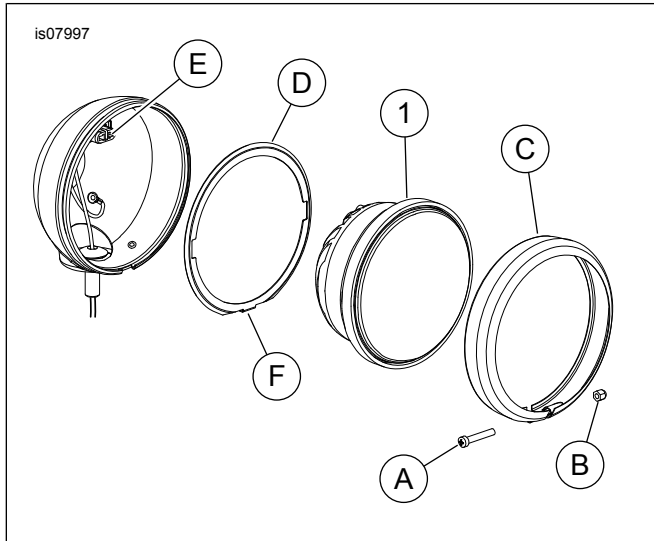

Figure 3. Service Parts: LED Auxiliary Lamps
See Figure 3 and Table 1.
2. See Figure 3. Remove auxiliary lamp retaining screw (A) and nut (B) from auxiliary lamp retaining ring (C). Remove and retain retaining ring and hardware.
3. Disconnect the wire harness plug from back of auxiliary lamp (1).
4. Remove lamp (1) and nesting ring (D). Discard lamp but retain nesting ring.